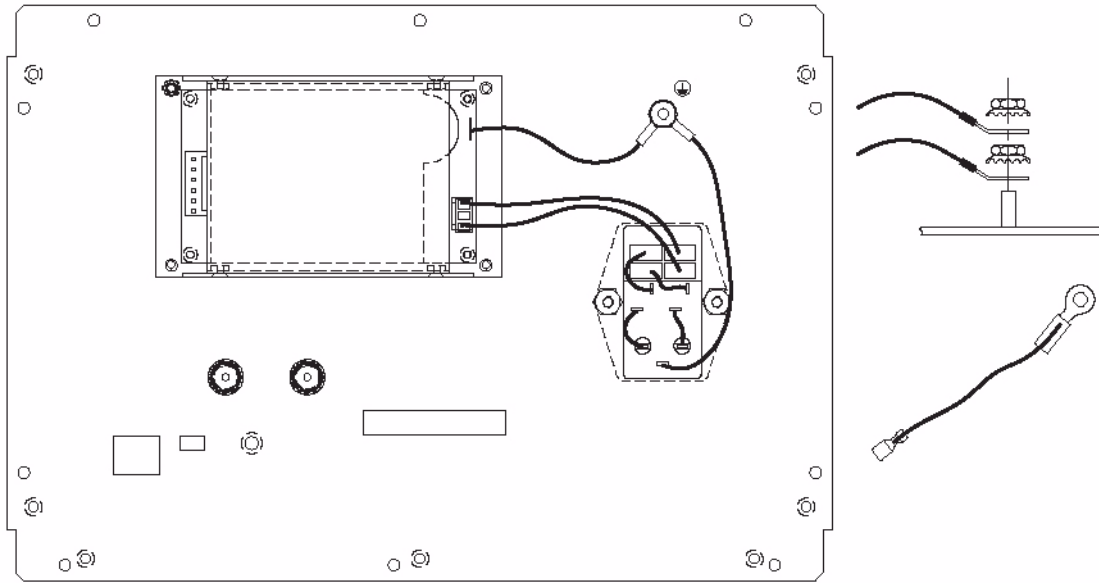

Figure 5-11. Power Input Module, Connections
3. With the chassis upright on a static protected work surface, disconnect the internal power plug from the internal power supply and disconnect the ground lead from the grounding post (refer to Figure 5-11).